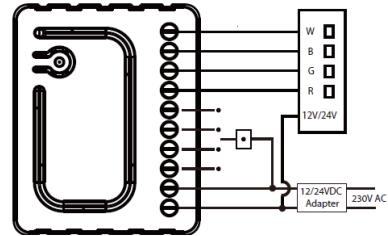
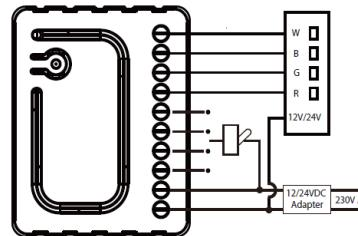

Figure 3. Connecting push switch
Figure 2. Connecting toggle switch
3. Connect the R.G.B.W. Color LED Dimmer according to Figure 2, or Figure 3.